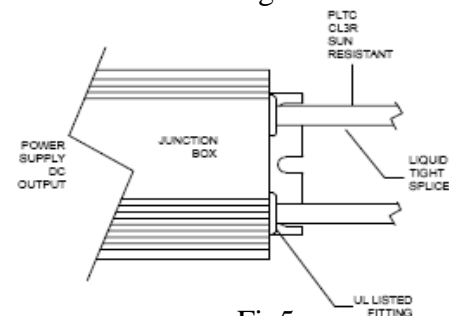

Fig5
- Conduit fitting shall be used; UL Listed Heyco LTF 1/2,avc Industrial FGA13-08 or equivalent (Fig 5).
- Output cord must be rated and marked PLTC or CL3R or “Sun resistant” (Fig 5).